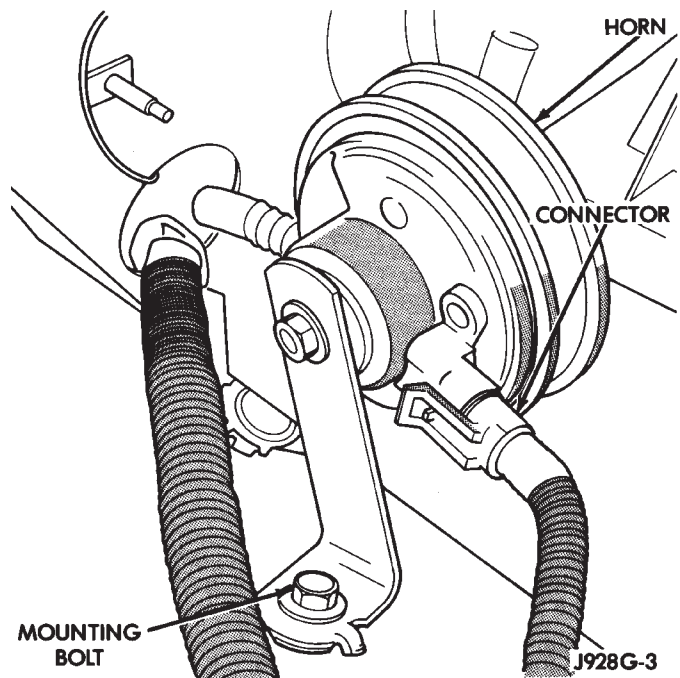

Fig. 3 Horn Removal/Installation—YJ
- (1) Disconnect wire harness connector from the horn (Fig. 3).
- (2) Remove horn and bracket mounting bolt. Horn and bracket are removed as an assembly.
- (3) To install, reverse the removal procedures.